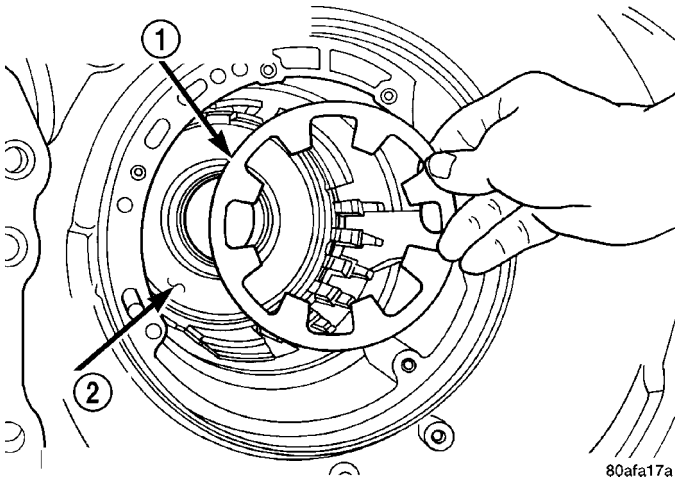

Fig. 94 Low/Reverse Piston Return Spring
(9) Install low/reverse piston return spring (Fig. 94).